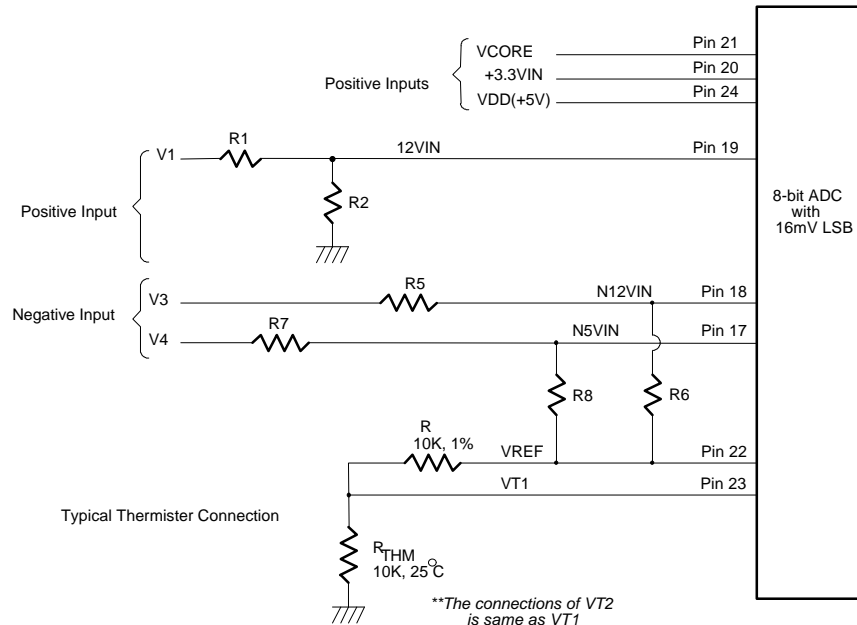

Figure 11.
The maximum input voltage of the analog pin is 4.096V because the 8-bit ADC has a 16mv LSB. Really, the application of the PC monitoring would most often be connected to power suppliers. The CPU V-core voltage ,+3.3V and battery voltage can directly connected to these analog inputs. The 5VSB and +12V inputs should be reduced a factor with external resistors so as to obtain the input range. As Figure 11 shows.
The negative voltage should be connected two series resistors and a positive voltage VREF (is equal to 3.6V). In the Figure 11, the voltage V3 and V4 are two negative voltage which they are -12V and -5V respectively. The voltage V3 is connected to two serial resistors then is connected to another terminal VREF which is positive voltage. So as that the voltage node N12VIN can be obtain a posedge voltage if the scales of the two serial resirtors are carefully selected. It is recommended from Winbond that the scale of two serial resistors are R5=232K ohms and R6=56K ohm. the The input voltage of node -12VIN can be calculated by following equation.
The W83783S can connect three thermistors to measure three different environment temperature. The specification of thermistor should be considered to (1) β value is 3435K, (2) resistor value is 10K ohms at 25°C. In the Figure 11, the thermistor is connected by a serial resistor with 10K Ohms, then connect to VREF (Pin 37).